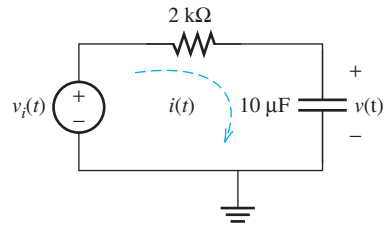

FIGURE P5.56 Circuit for Problem 5.56.
- 5.56 (H)* Find $i(t)$ and $v(t)$ in the circuit shown in Figure P5.56 assuming the input voltage